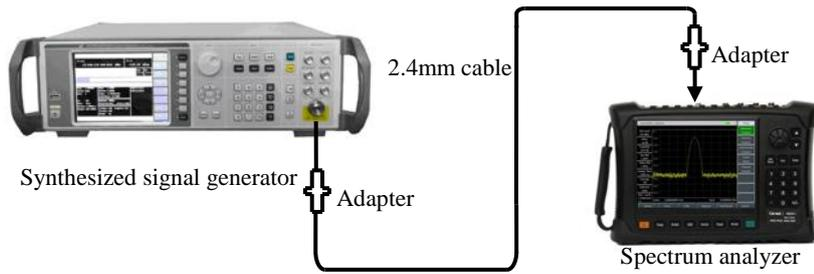

Fig. 12-2 Block Diagram of Test of Frequency Readout Accuracy
- 1) As shown in Fig. 12-2, connect the test instrument, and then connect the RF output end of the signal generator to RF input end of the spectrum analyzer.
- 5) Calculate the frequency readout error  $\Delta f$  by Formula (1):